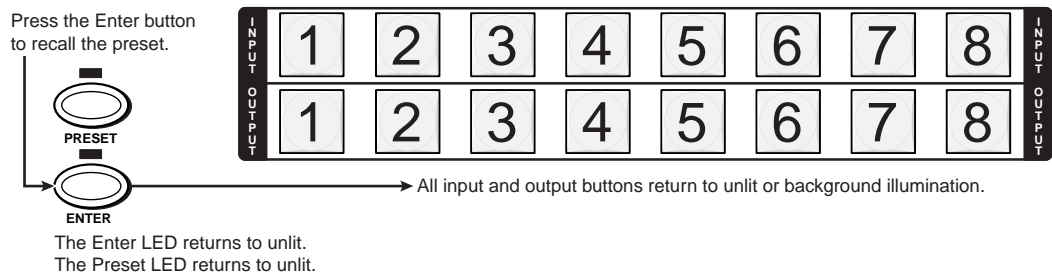

Figure 3-34 — Press the Enter button
4. Press and release the Enter button (figure 3-34). The configuration stored in memory location 1 is now the current configuration and can be viewed in the view-only mode (see example 4).